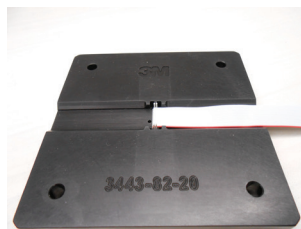

Figure 7
- 4.2 Place the properly sized ribbon cable onto the cover in the locator plate. (See Figure 7)